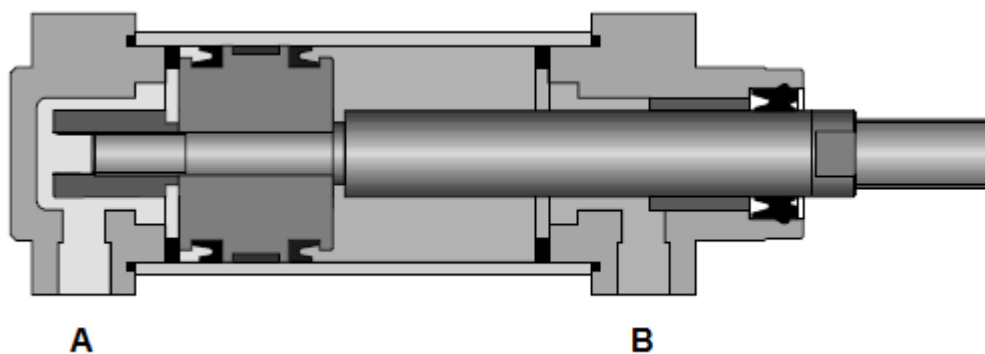

FIG 3.
- A. During the outward movement of the cylinder, the air enters port 2 (A). A pressure is built up which exerts a force at the back of the piston. The piston and the piston rod move outwards. The air on the opposite side of the piston will escape through port 4 (B). During the return movement, the flow of air is reversed by the control valve. The air enters the cylinder at port 4 (B). Thus, the outward and return movement may be used as working strokes. (See Fig 3)